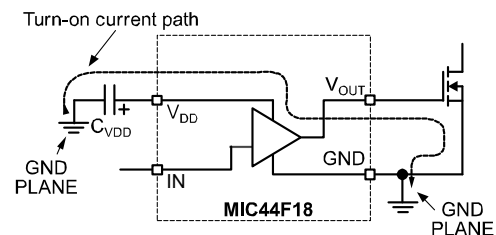

Figure 7. Critical Current Paths for High Driver Outputs
Figure 7 shows the critical current paths when the driver outputs go high and turn on the external MOSFETs. It also helps demonstrate the need for a low impedance ground plane. Charge needed to turn-on the MOSFET gates comes from the decoupling capacitors C_{VDD}. Current in the gate driver flows from C_{VDD} through the internal driver, into the MOSFET gate and out the source. The return connection back to the decoupling capacitor is made through the ground plane. Any inductance or resistance in the ground return path causes a voltage spike or ringing to appear on the source of the MOSFET. This voltage works against the gate drive voltage and can either slow down or turn off the MOSFET during the period when it should be turned on.
3. Trace out the high di/dt and dv/dt paths, as shown in Figures 7 and 8 and minimize etch length and loop area for these connections. Minimizing these parameters decreases the parasitic inductance and the radiated EMI generated by fast rise and fall times.